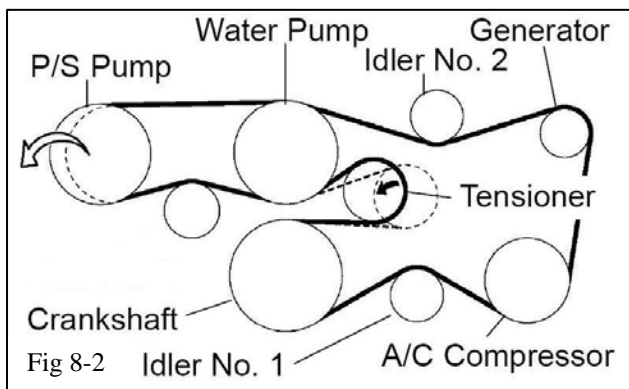

Fig 8-2
- (b) Remove Idler No. 1 and discard the bolt (Figs 8-2 & 8-3). Keep the thin step washer and pulley for the next step. **NOTE: Some vehicles may not have the thin step washer.**
- (d) Remove Idler No. 2 and discard the bolt (Figs 8-2 & 8-3). Keep the thin step washer and pulley for the next step. **NOTE: do not mistake Idler No. 2 for the tensioner pulley.**
- (f) Reinstall the fan and generator belt (Fig 8-2).